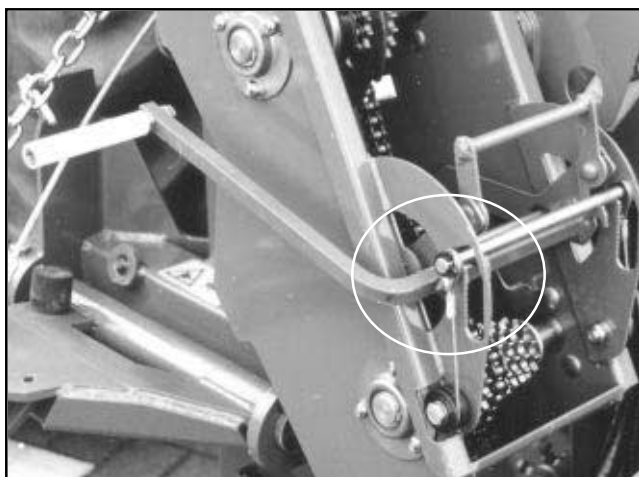

Fig. 8.7
- Remove crank (8.6/2) from the bracket (8.6/3), insert in square tube (8.6/4) and release the chain (8.6/5) by turning the crank in an anti-clockwise direction until the spacer shaft (8.6/6) of the wire cable (8.6/7) is locked in position (Fig 8.7).